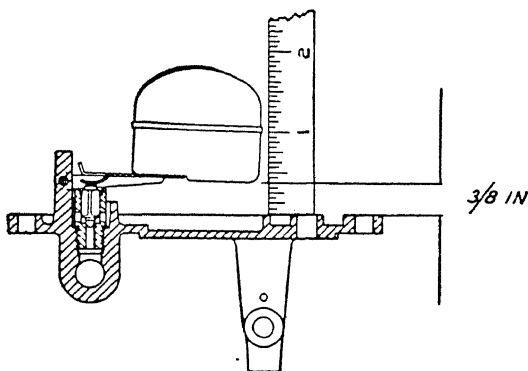

Fig. 148. Adjusting Float Level
**Float Level.** If the carburetor loads up after considerable service, the float level should be checked. Wear on the lip of the float lever will raise the float level. To check the float level, remove the dust cover; disconnect the metering rod, throttle connector rod, and plunger shaft; take off the float chamber cover and remove the cork pump gasket from the cover; place the steel scale on the metal rim which holds the pump gasket and measure to the nearest point of float. This dimension should be  $\frac{3}{8}$  inch, as shown in Fig. 148.